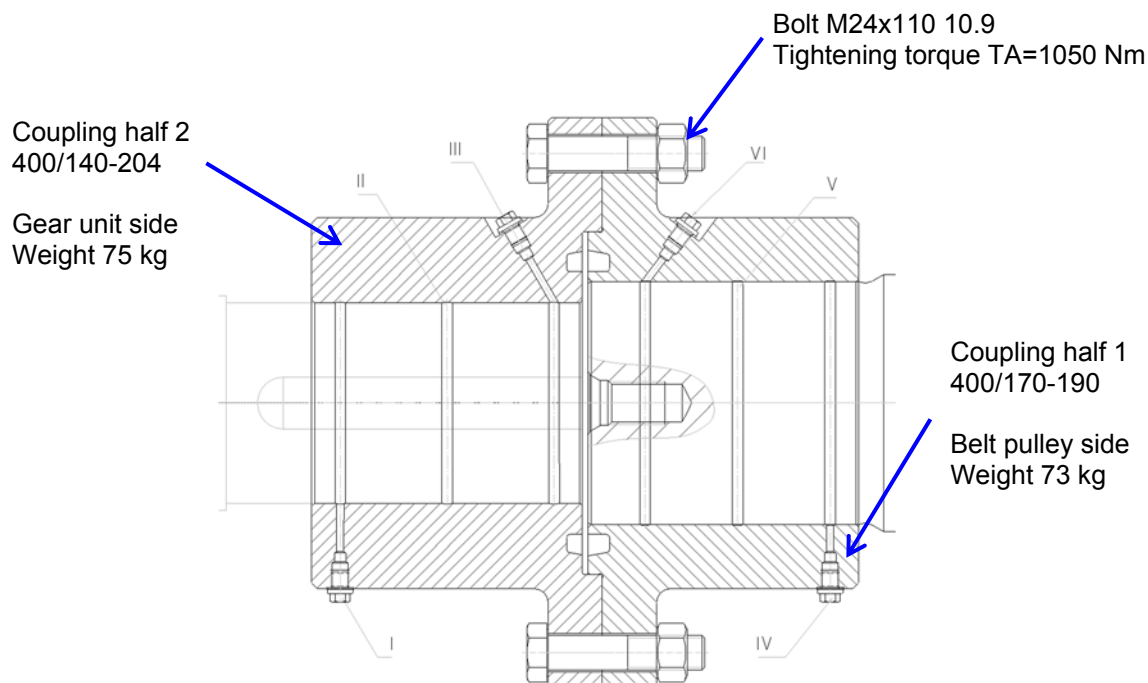
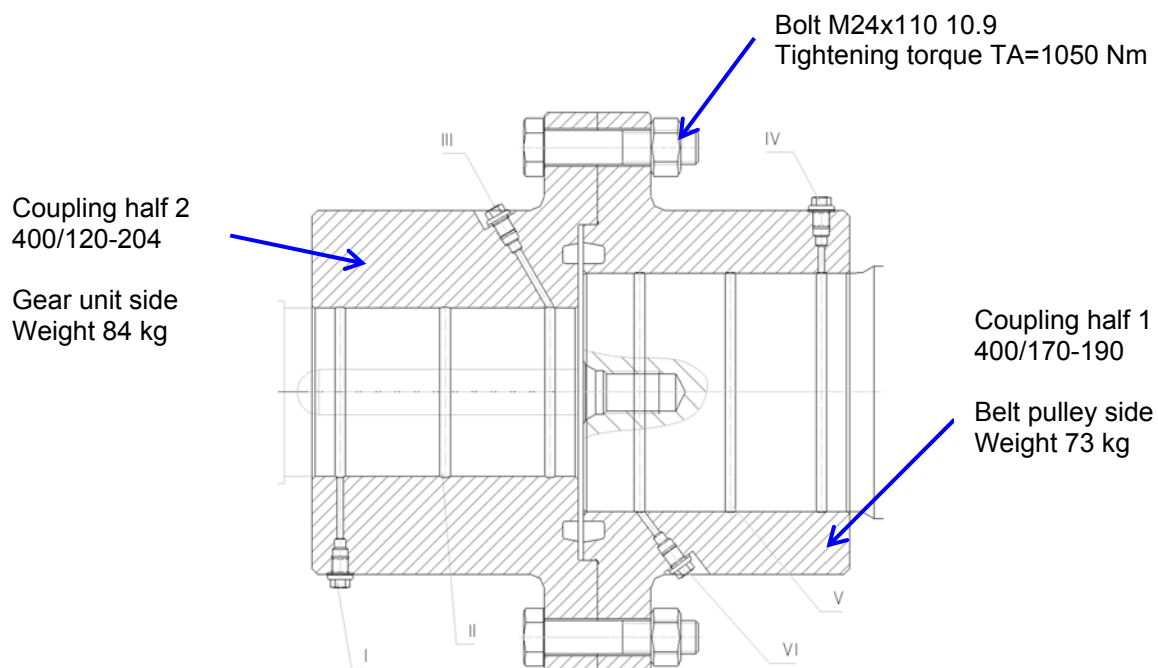

Figure 6: Flange coupling U1
Figure 7: Flange coupling U2-U5
- Using suitable lifting tools, secure coupling halves and retaining device (weights see Figure 6 and Figure 7).